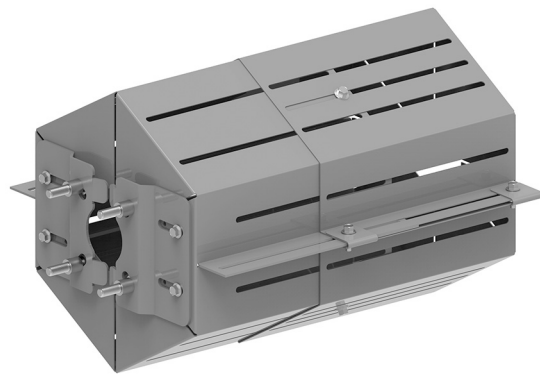
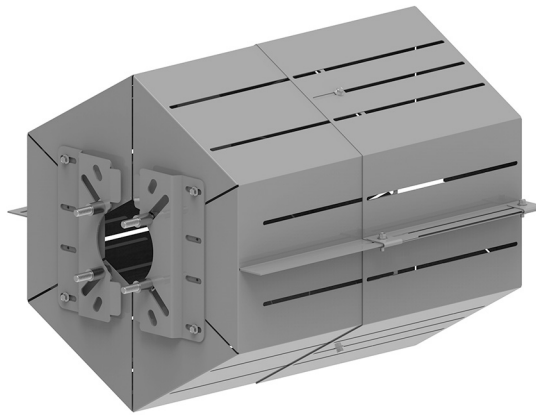

Figure 59: Fully assembled coupling guard — small bracket
Figure 60: Fully assembled coupling guard — large bracket
- b) Feed one bolt [8] through each of the angled slots on the mounting bracket [5] such that the shaft of the bolt protrudes away from the rounded tabs (as in Figure 59 on page 60 and Figure 60 on page 61).